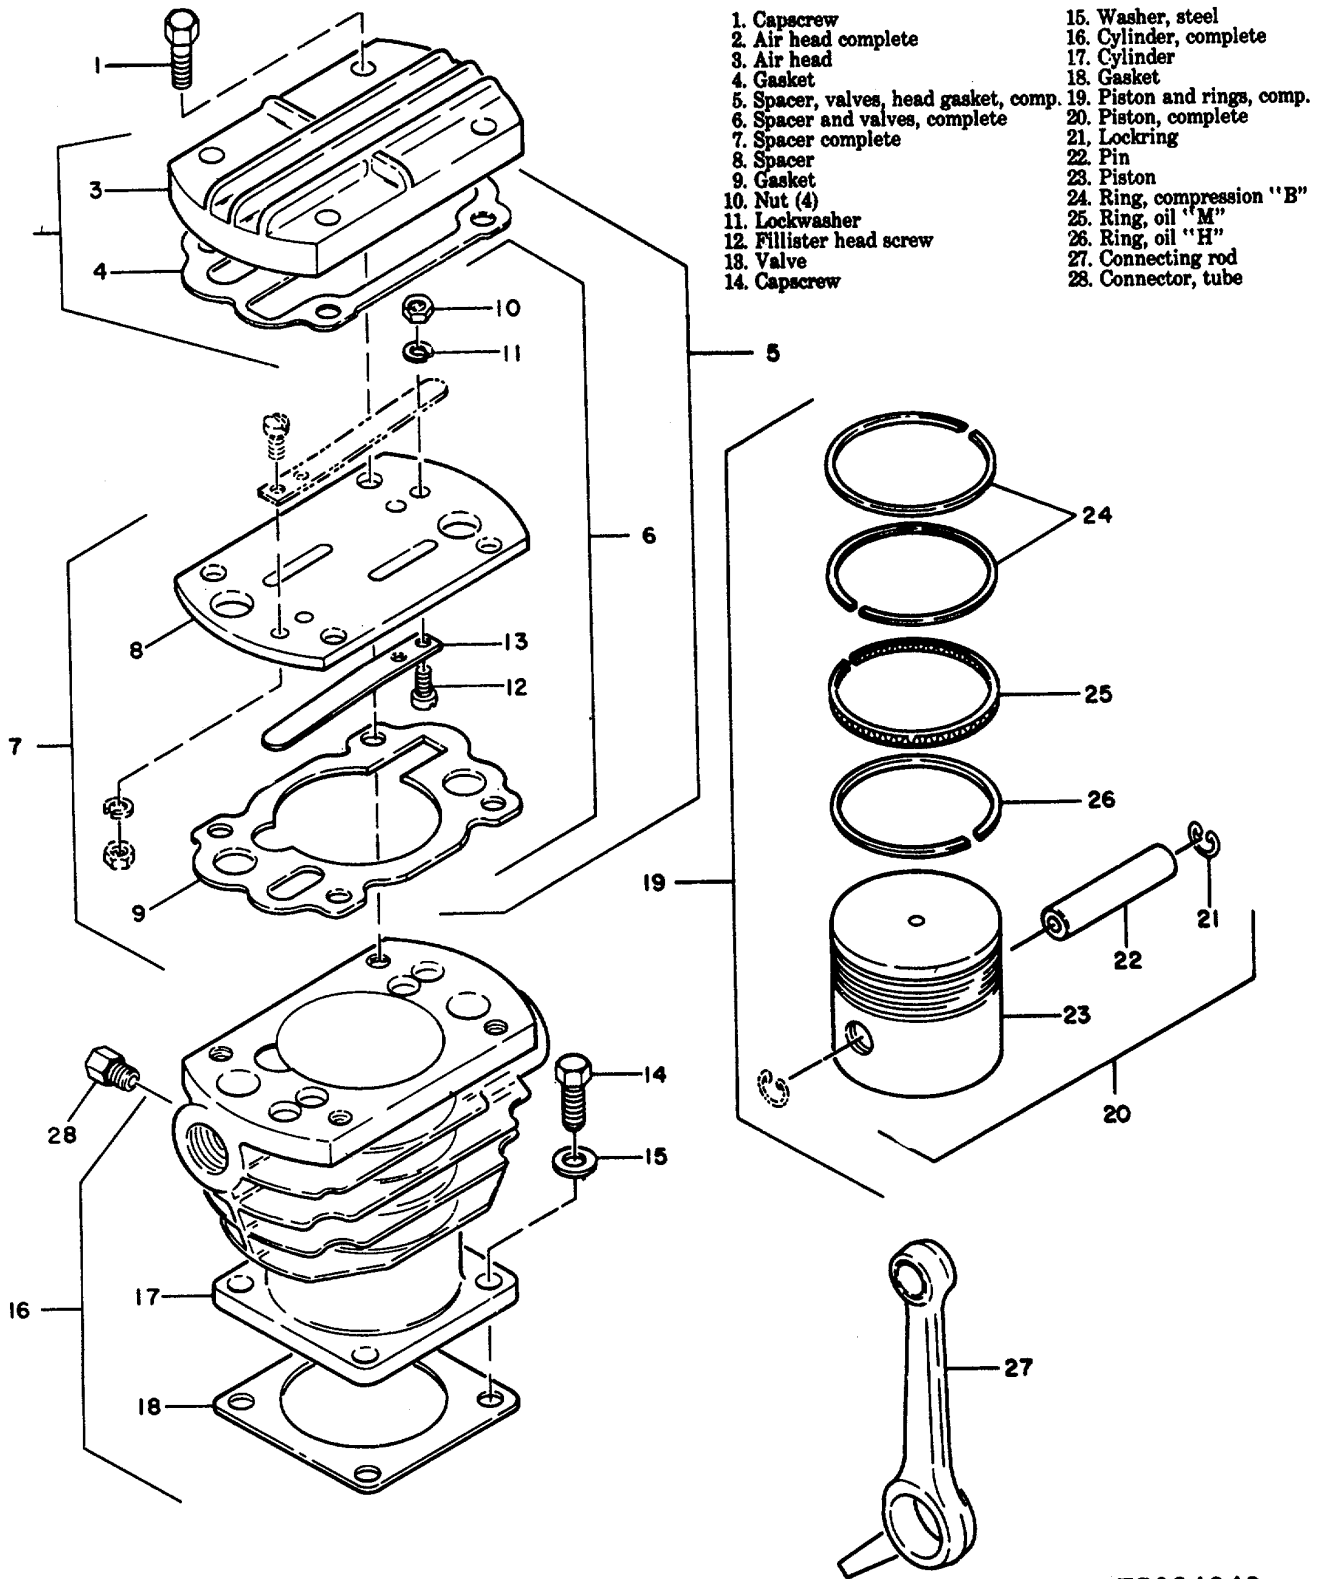

Figure 6-6. Low pressure cylinder, piston, rod and rings removal.
- (12) Remove tube connector (28, fig. 6-6).
- (14) Remove capscrew (1, fig. 6-6) from complete air head (2).
- (15) Remove air head (3) and gasket (4) from cylinder (17).
- (16) Remove spacer (8) from cylinder.
- (17) Remove four nuts (10), lockwashers (11) from screw (12) and remove screw and valves (13) from spacer (8).
- (18) Remove gasket (9) from top of cylinder.
- (19) Remove rings (24, 25 and 26) from piston (28)
- (20) Remove lockrings (21), pin (22) and connecting rod (27) from piston (23).
(8) Before installing rings, see that all ring grooves re lubricated with compressor lubricating oil.
(9) Install ring (23) in bottom groove of piston (20). Install the expander in groove first, before ring (22), in the second groove from bottom of piston, then install rings (21) in the second groove from top, and the top groove of piston (20). Move end gap at all rings of set until they are staggered at 90° to each other.
(10) Position cylinder gasket (15) on frame, then position cylinder (14) over piston (20) and press in on rings until they slip into the tapered bottom of the cylinder. It is recommended that a ring compressor be used at this time to avoid distorting or breaking the rings. Seat cylinder on gasket, then install steel washers (12) and cap-screw (11). Tighten to a torque value for size given in table 1-1.
(11) Install gasket (8), spacer (9) and valve plate (10). Install two gaskets (4) and air head (3), then install capscrews (1) and tighten to a torque value given for the size in table 1-1.
(12) Install connecting rod (27, fig. 6-6) on crankshaft crank pin bushing. Check that clearance is between 0.001 and 0.002 in. (0.002 and 0.005 cm) (table 1-2). After checking clearance between pin (22) and rod (27), a close tolerance of between 0.0002 and 0.007 in. (0.0005 and 0.001 cm) if satisfactory install pin (22) through rod (27) and piston (23), then secure pin with lockrings (21).
(13) Fill oil ring grooves of piston (23) with compressor lubricating oil. Place ring set in cylinder (17)